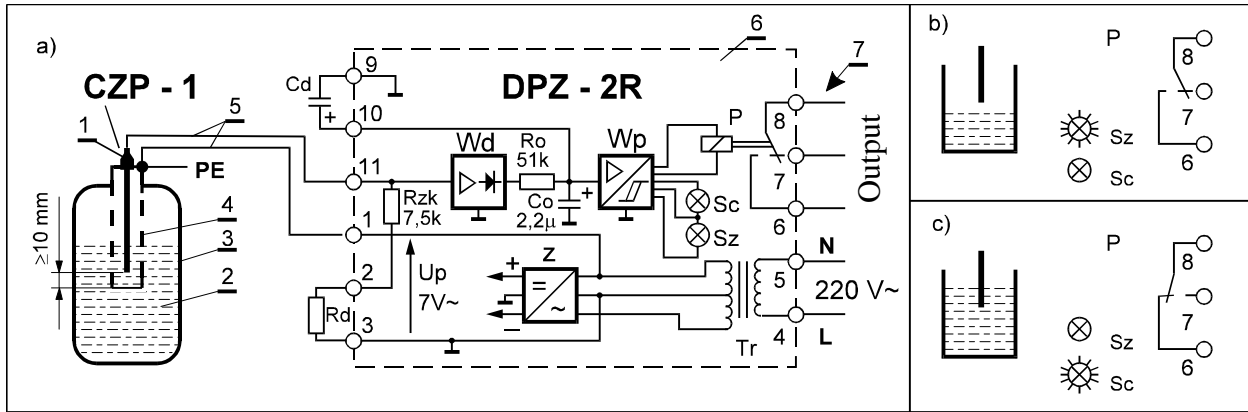

Fig. 4 Inversion-type “minimum level” signalling circuit.
Schematic and block diagrams of the entire level switch in two basic application circuits and the application functions of those circuits are illustrated in figures 4 and 5. The electric circuit can be powered from 230V AC network or with 24V AC current (terminals 4,5) or 12 or 24 V DC current (via internal converter; power supply: terminal 4: „+”, 5: „-”). Input circuits (terminals 9,10,11,1,2,3) are isolated from the power supply by a low-power separating transformer (Tr) (also where DC is used). The circuit includes a transistor-based detecting amplifier (Wd) and a bistable amplifier (Wp) with hysteresis (flip-flop), output control relay (P) and signal lamps (optical level switches) (Sz) and (Sc)
The flip-flop switching points (expressed as switching resistance values) are selected in such a way that their average arithmetic value (median; threshold) for both basic application circuits (Fig. 4 and 5) is approximately the same. Consequently, the switching resistance values for a specified Rd value, for both application circuits, are the same (this simplifies the selection of the Rd resistor).
The possibility to swap the range resistor and the sensor impedance in the measuring divider circuit allows a free selection of one of the above application circuits by the user. The minimum level signalling circuit (Fig. 4) enables the output relay once the level exceeds the required minimum. The circuit is suitable to indicate the minimum level because the drop of the liquid level in the tank below the required minimum level results in a state of output terminals identical to that when no power is present, which causes that any possible power failure is indicated as an emergency and so is the drop of the liquid level below the warning minimum level. The operation of the circuit shown in Fig. 5 is opposite. The consequence of such solutions is a simplification of the level switch and high reliability.
⚠ Caution: – According to the conditions of the Technical Inspection the sensors of the level switches which act as switches and parameter limiters in pressure equipment protective automation devices which are installed in steam boilers and other pressure vessels should, according to the Technical Conditions of the Technical Inspection DT- UC - 90/WO -A/02, be mounted vertically in an enclosure with balancing holes, with the cylindrical part of the enclosure reaching min. 10 mm below the electrode tip, the smallest gap between the electrode and the enclosure being at least 5 mm (examples see Fig. 4 and 5).
6.1. Steam boilers: - see Fig. 4 and 5 or 6.2.5; 6.2.6; 6.2.7